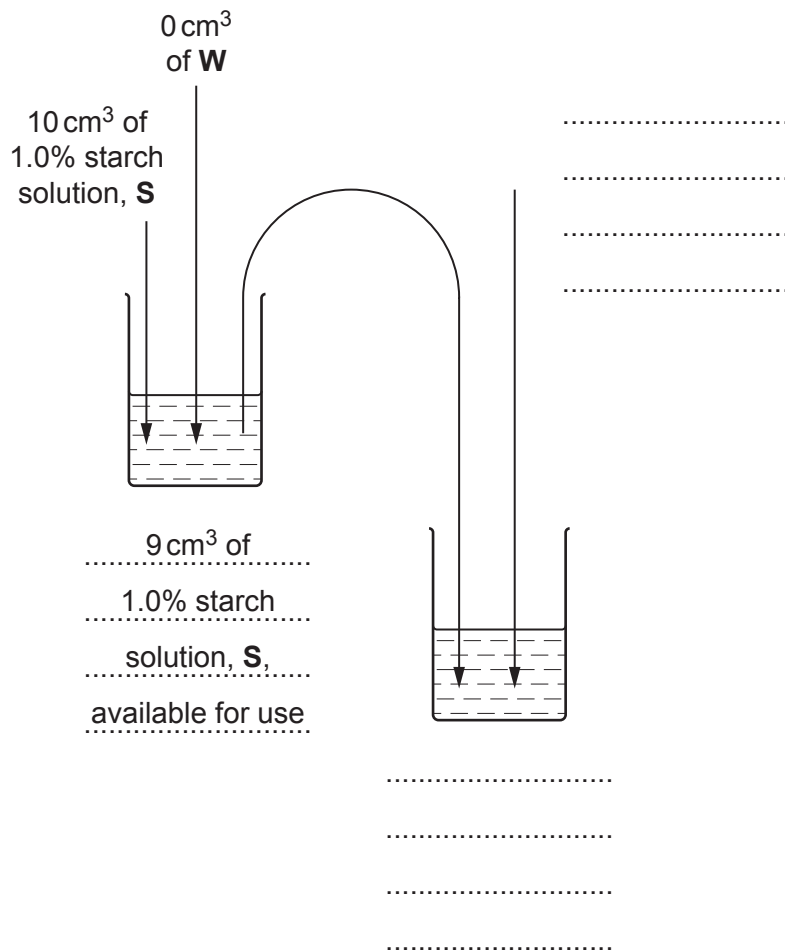

Fig. 1.2
Fig. 1.2 shows you the first two beakers you will use to make your serial dilution.
- (i) Complete Fig. 1.2 by drawing as many extra beakers as you need for your serial dilution.
1. Prepare the concentrations of starch solution as decided in **(a)(i)** and shown in Fig. 1.2.